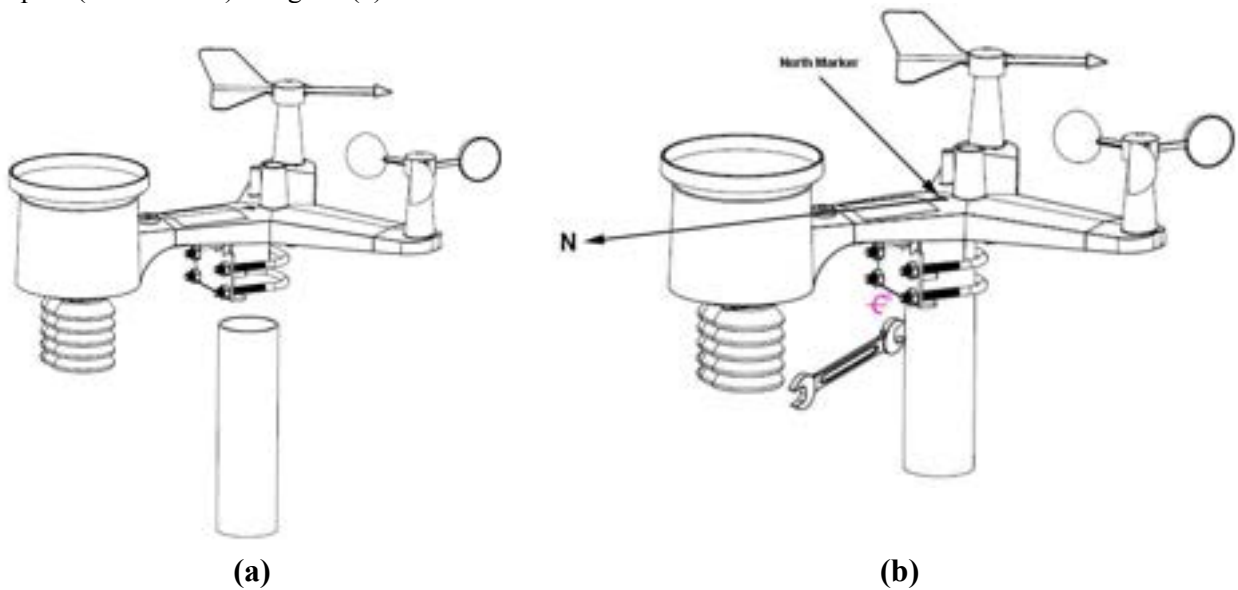

Figure 213
Reference Figure 213. The mounting assembly includes two U-Bolts and a bracket that tightens around a 1" to 2" diameter pole (not included) using the (4) U-Bolt nuts.